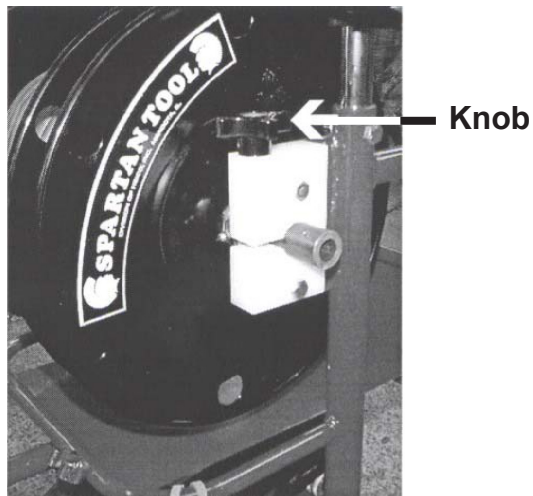

Fig. 3
3. Release the jet hose from the reel by turning the plastic knob on the side of the reel support frame counterclockwise (left). (See Fig. 3.)